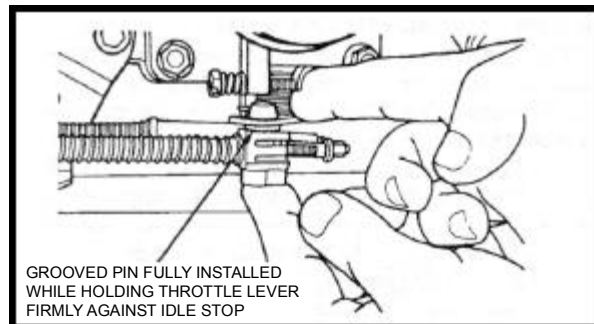

FIGURE 22
7.13 Insert grooved pin back into grommet. (See Fig. 22).